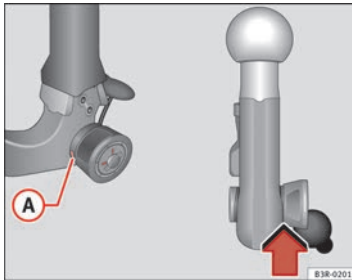

Fig. 160 Removable towing bracket: Safety check
- Check that the green marking **A** ⇒ Fig. 160 on the knob is inside the black zone marked on the ball joint.